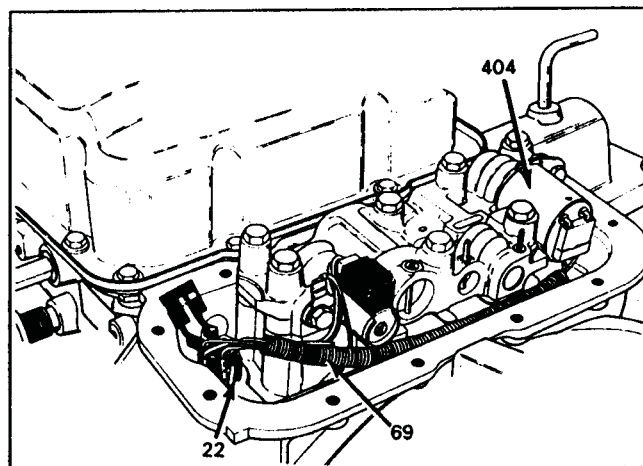

Figure 139
6. Connect the 5 terminal adapter case wiring harness to the adapter case electrical connector by snapping into place, as shown in Figure 139.
7. Connect the adapter case wiring harness to the force motor solenoid, as shown in Figure 139.